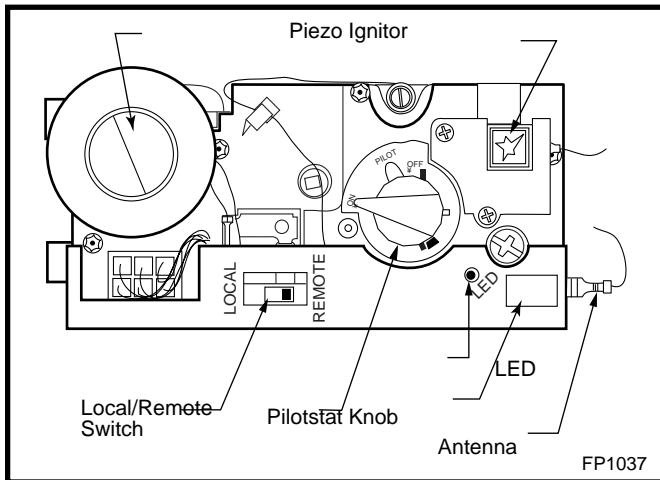

Fig. 51 Comfort control valve.
1. If the manual switch is in remote position, switch it to LOCAL. (Fig. 51)